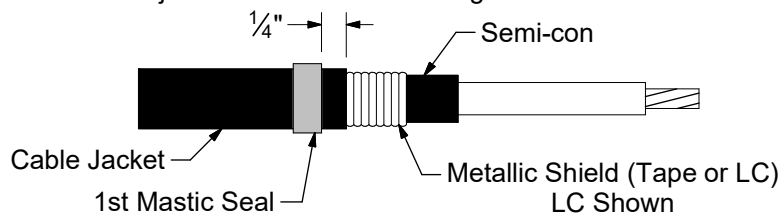

Figure 2A
- Select one of the two mastic strips from the kit and remove white release liners. Using light tension apply a single wrap of mastic around the cable jacket 1/4" from the cut edge. Cut off excess mastic. See Figure 2A.